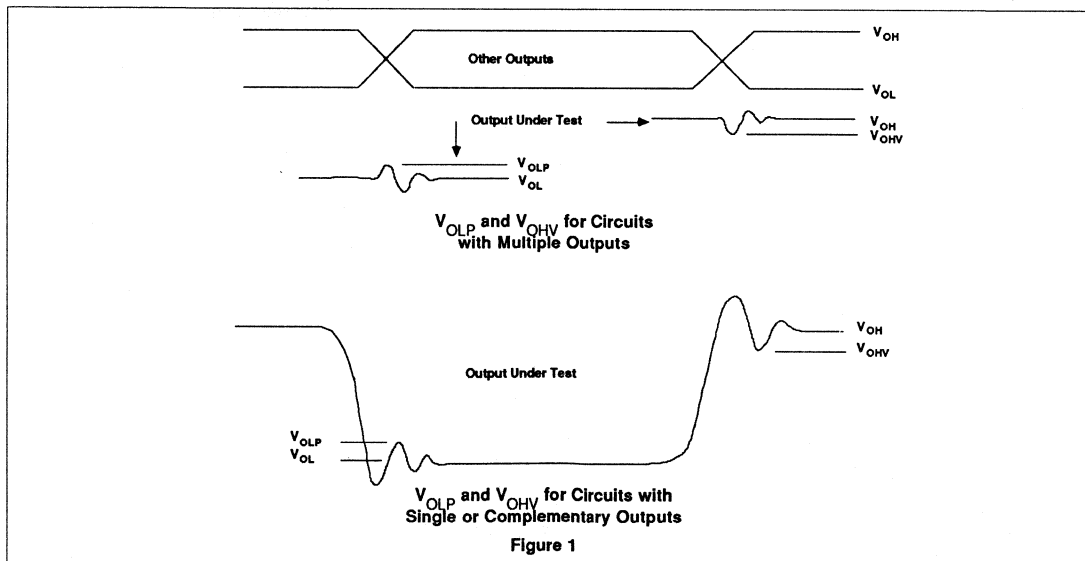

Figure 1
Figure 1 shows a working area suitable for safely handling electrostatic sensitive devices. It has a work bench, the surface of which is conductive or covered by an antistatic sheet. Typical resistivity for the
The purpose of these tests is to determine the magnitude of disturbances on the High and Low level of the outputs when multiple outputs are switching. The terms V_{OHV} and V_{OLP} are used to describe the level of these disturbances. V_{OHV} refers to the minimum 'valley' High level output voltage and V_{OLP} refers to the maximum 'peak' Low level output voltage. Figure 1 shows a typical example of what the output disturbances look like and also defines the points where V_{OLP} and V_{OHV} are measured.
For circuits with a single output or a single complementary output, the circuit is setup so that the pin under test is switching and the disturbance levels are then measured at the points on the waveform as shown in Figure 1. For all other circuits, the circuit is set up so that the pin under test is not
switching and the disturbance levels are then measured as shown in Figure 1.
- Examine the waveform and record the level of V_{QH} with respect to V_{CC} as defined by Figure 1.
- Examine the waveform and record the level of V_{OLP} with respect to Ground as defined by Figure 1.